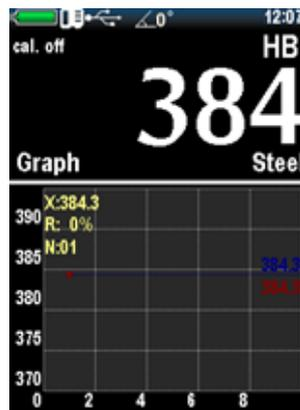

Figure 2.18 – The display after the Leeb probe measuring
12. After pushing the trigger button the impact body hits the tested surface and the value of measured hardness is displayed (Figure 2.18).